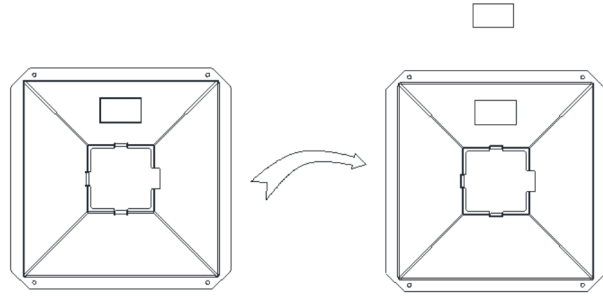

Fig. 2
2. Remove the sensor cut-out on the reflector. (Fig. 2)